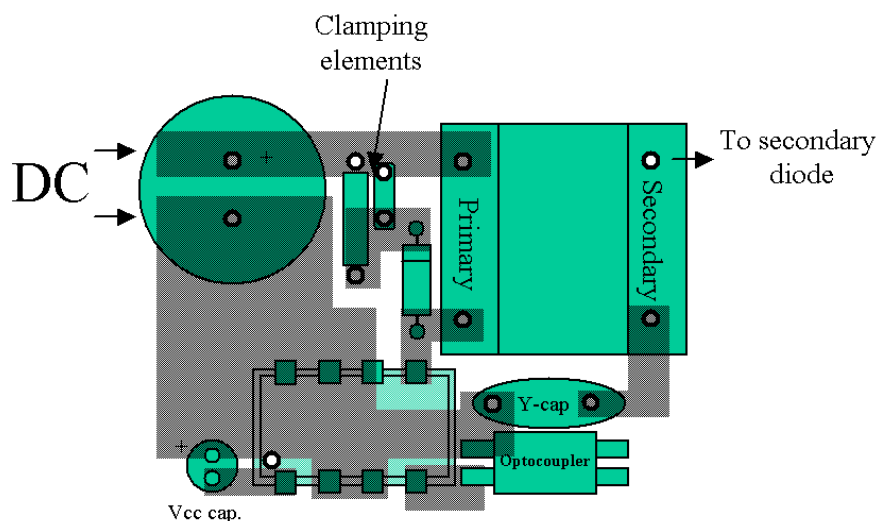

**Figure 25. A Possible PCB Arrangement to Reduce the Thermal Resistance Junction-to-Ambient**
1.0 W for an ambient of 50°C. The losses inherent to the MOSFET  $R_{DSon}$  can be evaluated using the following formula:  $P_{mos} = \frac{1}{3} \cdot I_p^2 \cdot d \cdot R_{DSon}$  (eq. 13), where  $I_p$  is the worse case peak current (at the lowest line input),  $d$  is the converter operating duty-cycle and  $R_{DSon}$ , the MOSFET resistance for  $T_J = 100^\circ\text{C}$ . This formula is only valid for Discontinuous Conduction Mode (DCM) operation where the turn-on losses are null (the primary current is zero when you restart the MOSFET). Figure 25 gives a possible layout to help drop the thermal resistance. When measured on a 35  $\mu\text{m}$  (1 oz) copper thickness PCB, we obtained a thermal resistance of  $75^\circ\text{C/W}$ .